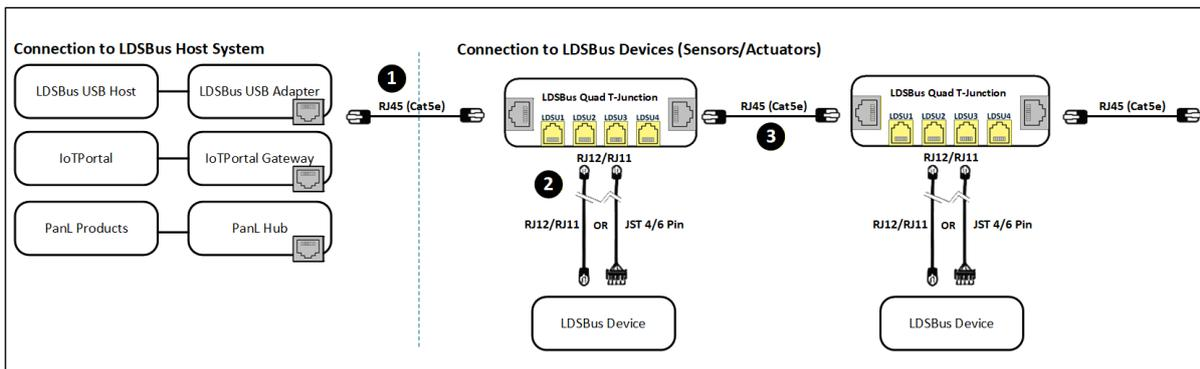

Figure 2 - Connection Diagram
Figure 2 illustrates the connection of the LDSBus Isolated IO Controller (LDSBus Device) to the LDSBus. Please visit <https://brtsys.com/resources> to view the full device application, setup and installation guides.
2. Connect the configured LDSBus Isolated IO controller to the LDSBus Quad T-Junction as shown in Figure 2.
3. If there is more than one LDSBus Quad T-Junction, chain them together as shown in Figure 2.